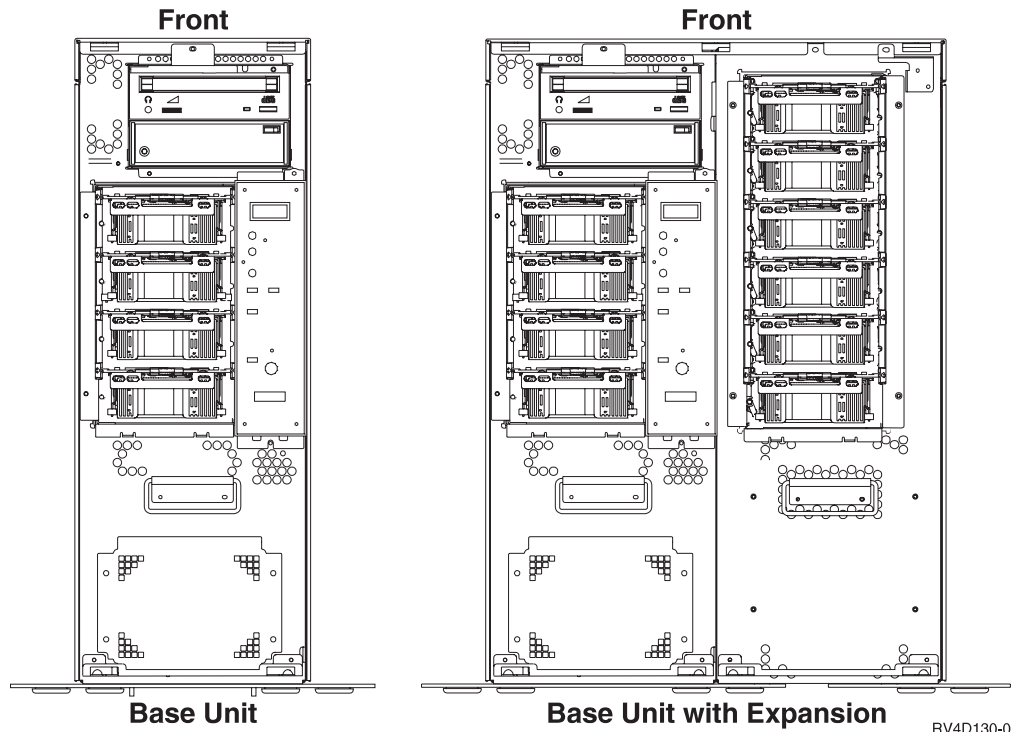

Figure 9. Disk Unit Slot Positions
- \_\_\_ 8. When you have a system unit with an expansion unit, **fill the slot positions in the base unit first**. The system unit you have will either be a base unit or a base unit with an expansion unit (Figure 9 on page 12).